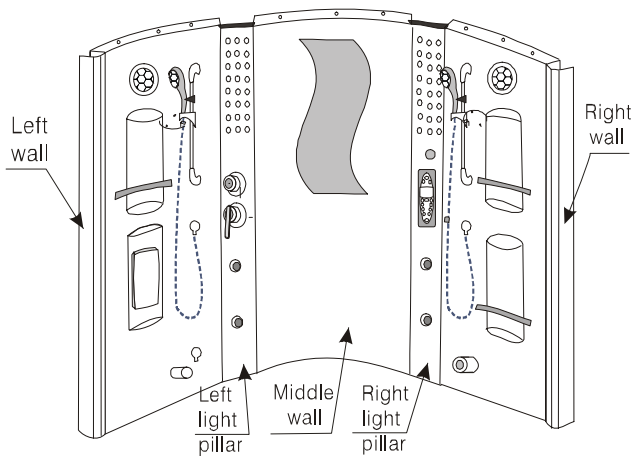

Fig. 2
2) Equip the wall body — put the left wall, the left light pillar, the middle wall and the right light pillar, the right wall vertically to the level ground with soft cloth of cushion(as fig. 2), connect these five pieces as a whole through the corresponding hole in each of them with M6x25 bolts, make up the wall assembly. (Notice: don't tighten the bolt temporary)